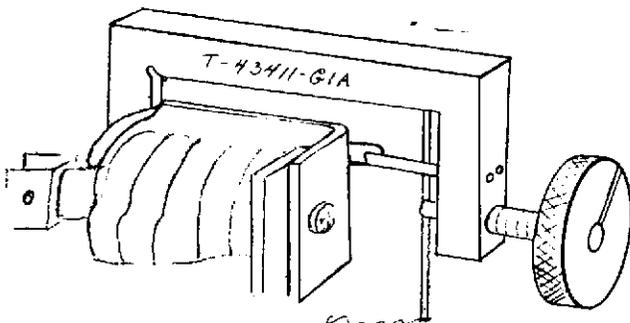

Figure 3-42. HOLDING CLAMP T-43411-G1A
- c. Use holding clamp T-43411-G1A (Fig. 3-42) to move solenoid in slightly ($\frac{1}{2}$ to 1 turn), to eliminate buzz, or out slightly for more clutch drive. Also actuator may be rotated (Para. G-11d) slightly for tighter clutch spring warp.